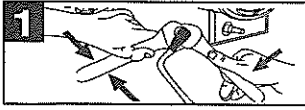

Figure 1
- 2、put the heater on a stable working underground, take away the protection guard from the machine, connect the other end of gas hose with machine and tighten the locking connector nut to ensure the soundness of the gas inlet. (Figure 1 )